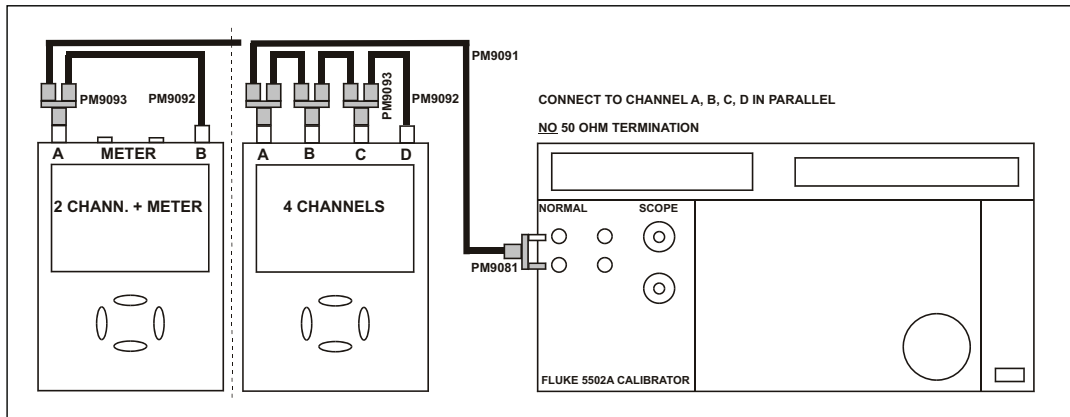

Figure 4-4. Test Tool Inputs A, B, C, D to 5502A Normal Output
1. Connect the Test Tool to the 5502A as shown in see Figure 4-4.
1. Connect the Test Tool to the 5502A as shown in Figure 4-4.